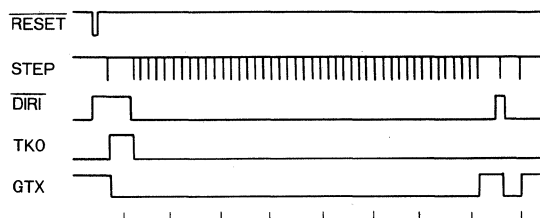

Fig.33
## (13) TRACK COUNTER (Table17, Fig.33, 34参照)